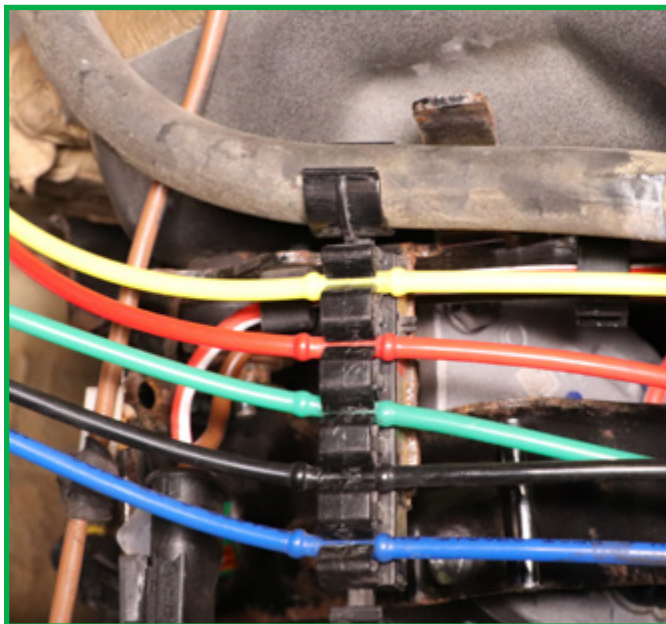

FIGURE 40
10. Ensure all lines are clipped back on to the compressor assembly bracket. (Figure 40)